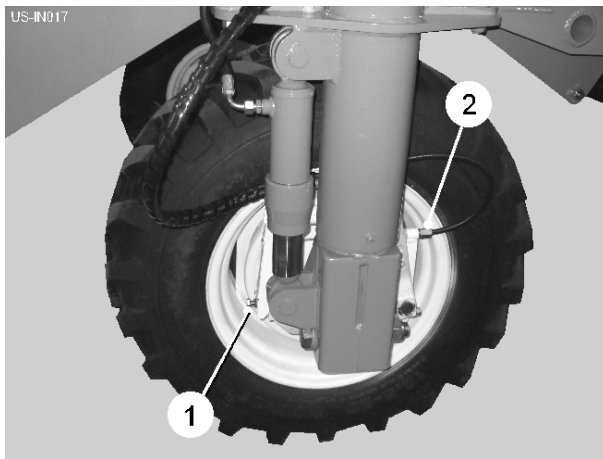
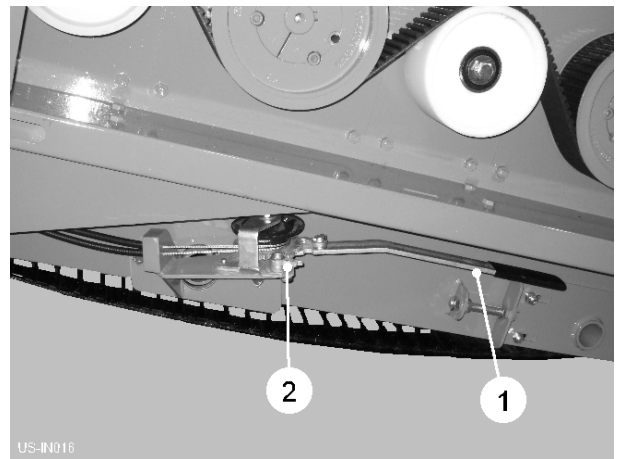

Fig 17
Fig 18
Connect the hydraulic brake hose to the tractor 'brake service outlet'. The machine brakes will operate when the tractor brakes are applied. Brake shoe wear can be taken up by adjusting the setscrews (item 1, fig 17).
To apply the handbrake, pull the lever (item 1, fig 18) in and out against the ratchet until the brake cables are fully tensioned. To remove the handbrake, pull the lever fully out to release the ratchet mechanism catch (item, 2, fig 18). Finally, push the lever back under the machine for transport. Handbrake cable length is set on the cable adjusters (item 2, fig 17).